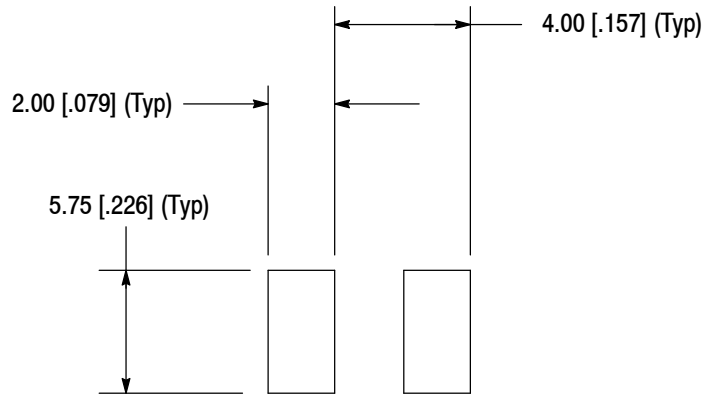

Figure 5
The stencil aperture shall be determined by the circuit pad size and stencil thickness. It may be any shape as long as it prevents solder bridging from one pad to another. Generally, the thinner stencil will need a larger aperture to maintain the given volume of solder paste. See Figure 5.
*The stencil layouts illustrated apply to the top (connector) side (unless otherwise noted) of the pc board. For any other variations, refer to the pc board mounting configurations on the appropriate customer drawing to determine modifications necessary to the solder stencils in Figure 5.*